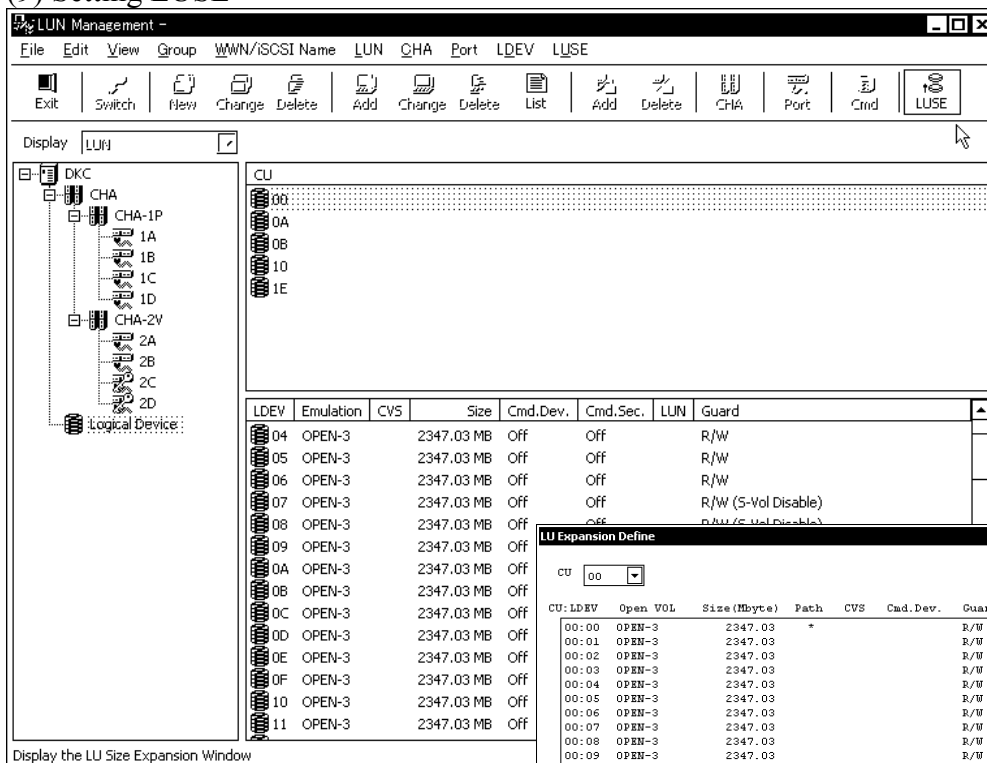

Figure 9.1 Main Window
- ① Select (DR) [LU Size Expansion...] from the [LUSE] menu in the Main window (Figure 9.1).
- ③ Selected information is defined to the Main Window (Figure 9.1).